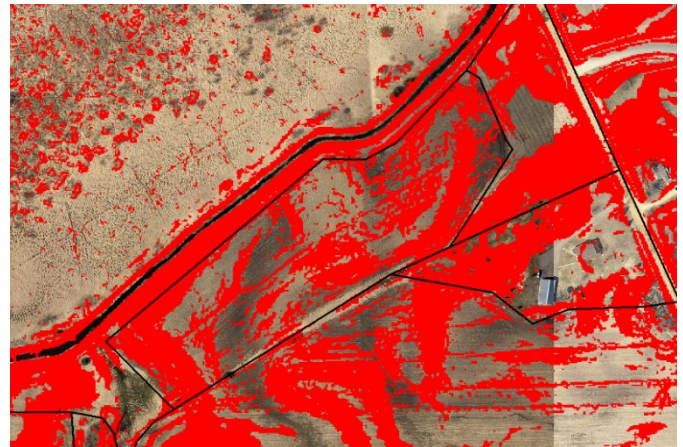

Figure 6. Slopes greater than 6%
- The slope raster should now only show slopes over 6% (Figure 6).